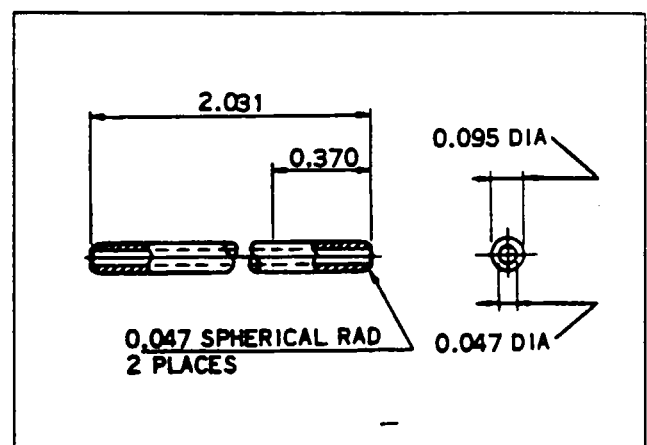
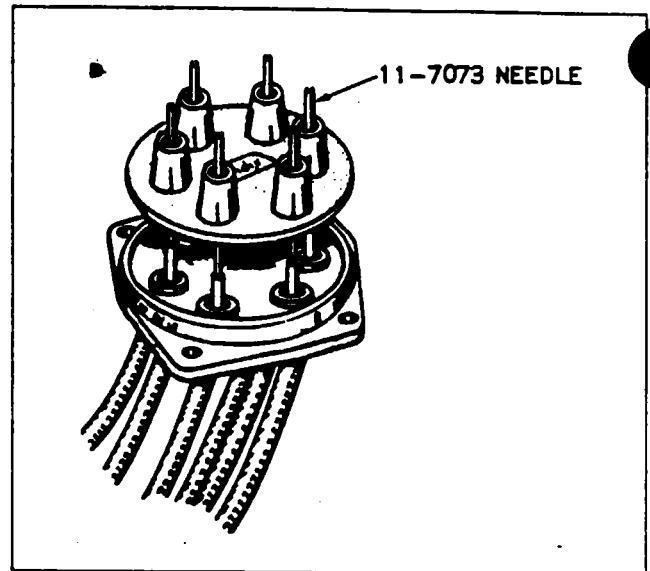
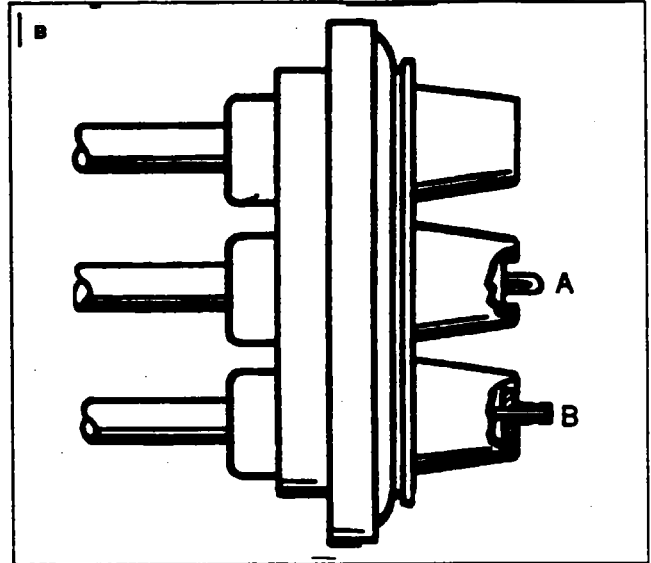

Figure 8-28. Needle
Figure 8-30. Installing Grommet Over Lead Assemblies
Figure 8-32. Wire Doubled Over
13. Insert Scintilla 11-7073 Needle (Figure 8-28) thru small hole of grommet and over stripped end of wire. (Refer to Figure 8-30.) Slide grommet down needle until it seats tightly against the tapered ferrule.
14. Cut wire 0.375 inch from top of grommet outlet (See Figure 8-30.) Double wire over as shown in A of Figure 8-32. Slide eyelet over doubled wire until it is firmly seated in recess of grommet outlet.
15. Using the "AB" groove of Scintilla 11-4152 Crimping Tool, or equivalent, crimp eyelet to wire. Approximately 0.031 of wire should extend from end of eyelet after crimping. See B of Figure 8-32.